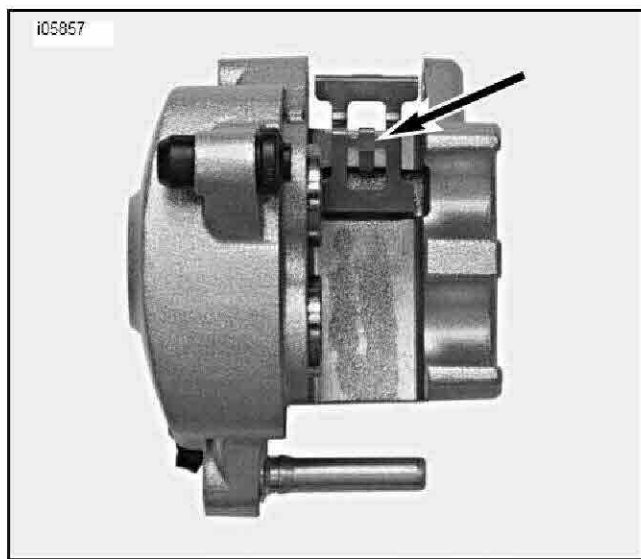

Figure 9. Front Caliper Pad Spring
5. See Figure 9. Place caliper housing on workbench as shown. Install caliper pad spring in channel. Press firmly into place.
- Caliper pad spring orientation must match Figure 9.